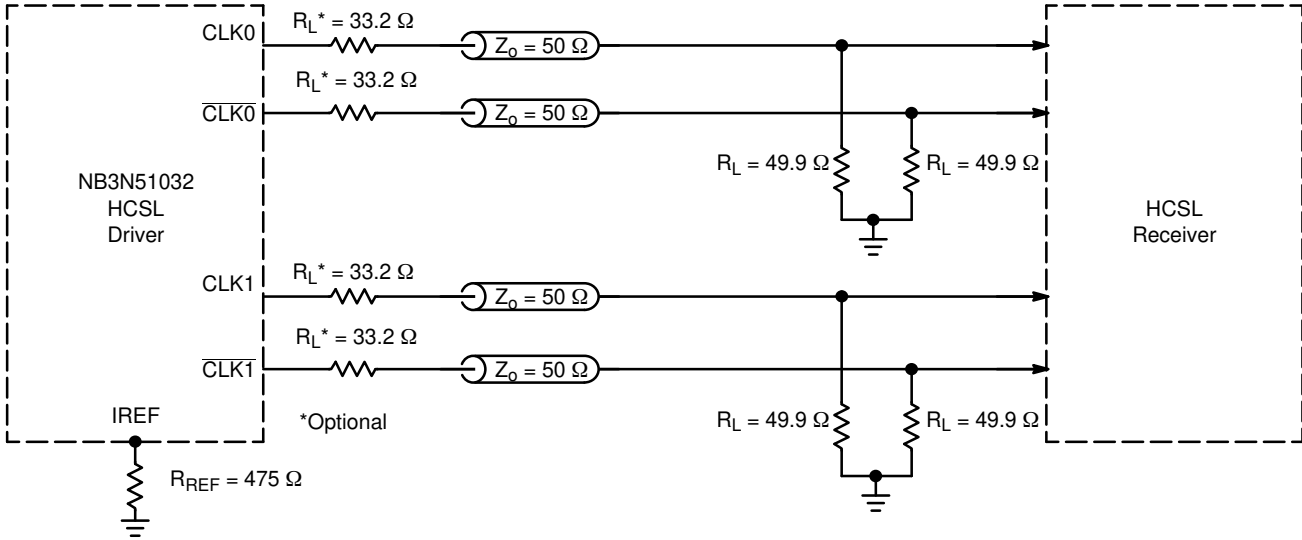
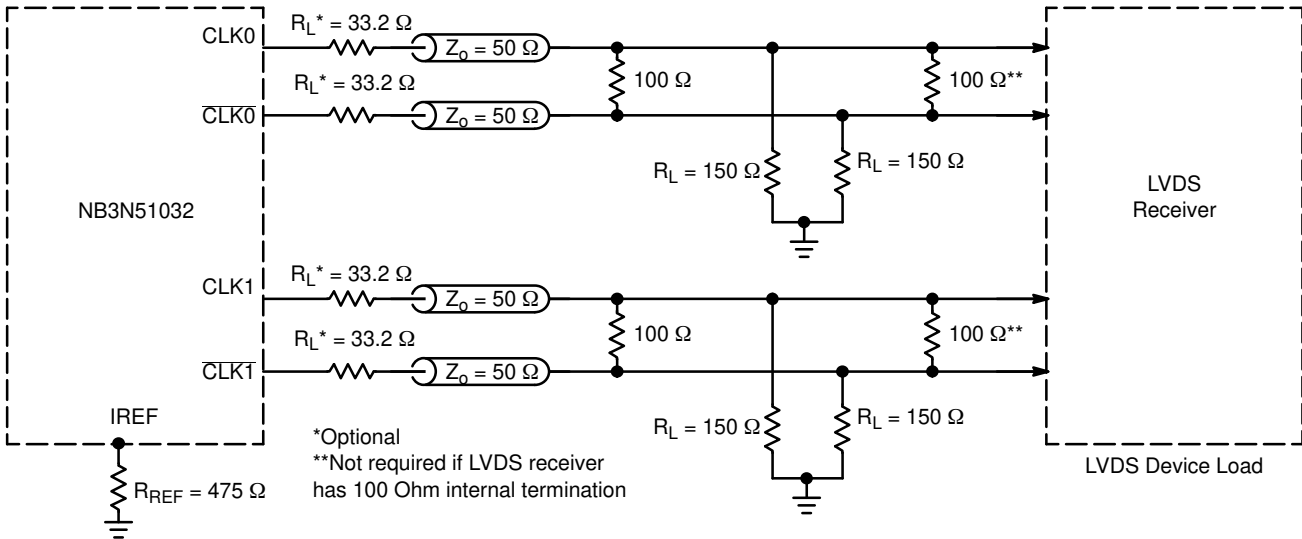

Figure 9. Typical Termination for Output Driver and Device Evaluation
Figure 10. Typical Termination for LVDS Device Load
4. VDDXD and VDDODA power pins must be shorted to power supply voltage V_{DD} and GNDXD and GNDODA ground pins must be shorted to power supply ground GND. Measurement taken with outputs terminated with R_S = 33.2 Ω, R_L = 49.9 Ω, with test load capacitance of 2 pF and current biasing resistor set at 475 Ω. See Figure 9. Guaranteed by characterization.
9. VDDXD and VDDODA power pins must be shorted to power supply voltage V_{DD} and GNDXD and GNDODA ground pins must be shorted to power supply ground GND. Measurement taken from differential output on single-ended channel terminated with $R_S = 33.2\ \Omega$, $R_L = 49.9\ \Omega$, with test load capacitance of 2 pF and current biasing resistor set at 475 Ω . See Figure 9. Guaranteed by characterization.
The outputs can be terminated to drive HCSL receiver (see Figure 9) or LVDS receiver (see Figure 10). HCSL output interface requires 49.9 Ω termination resistors to GND for generating the output levels. LVDS output